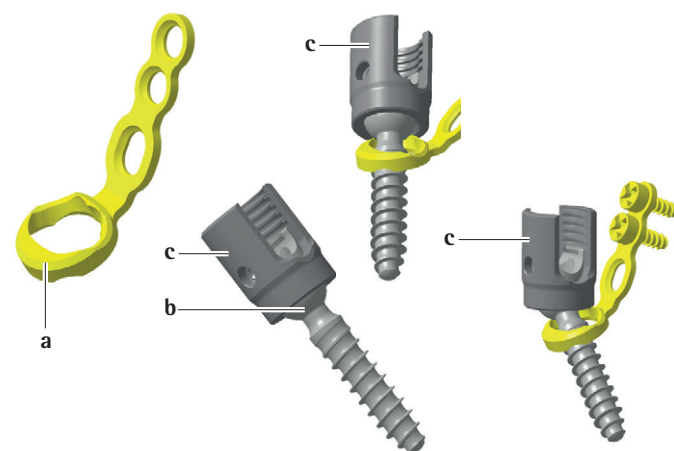

Fig. 56
- While inserting the screw, make sure that the screw head **b** (not the tulip **c**) of the lateral mass screw directly contacts the caudal border **a** of the laminoplasty plate hole. This firmly fixes the laminoplasty plate to the lamina, see Fig. 56.
- ▶ Re-align the screw tulips **c** as needed, as can be seen on the right side of the image, see Fig. 56.